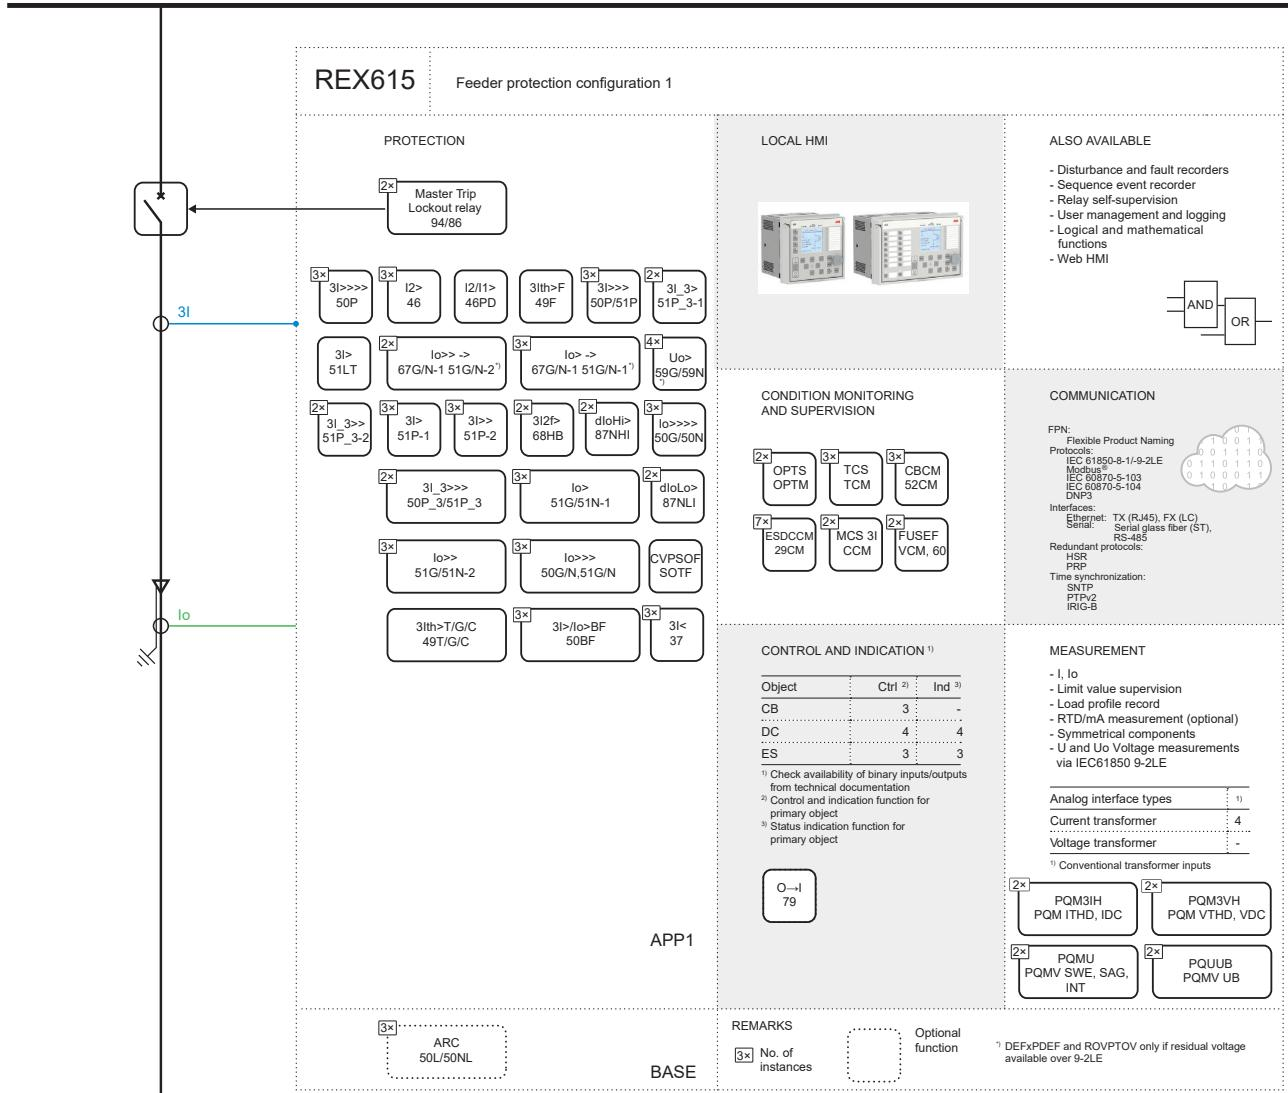
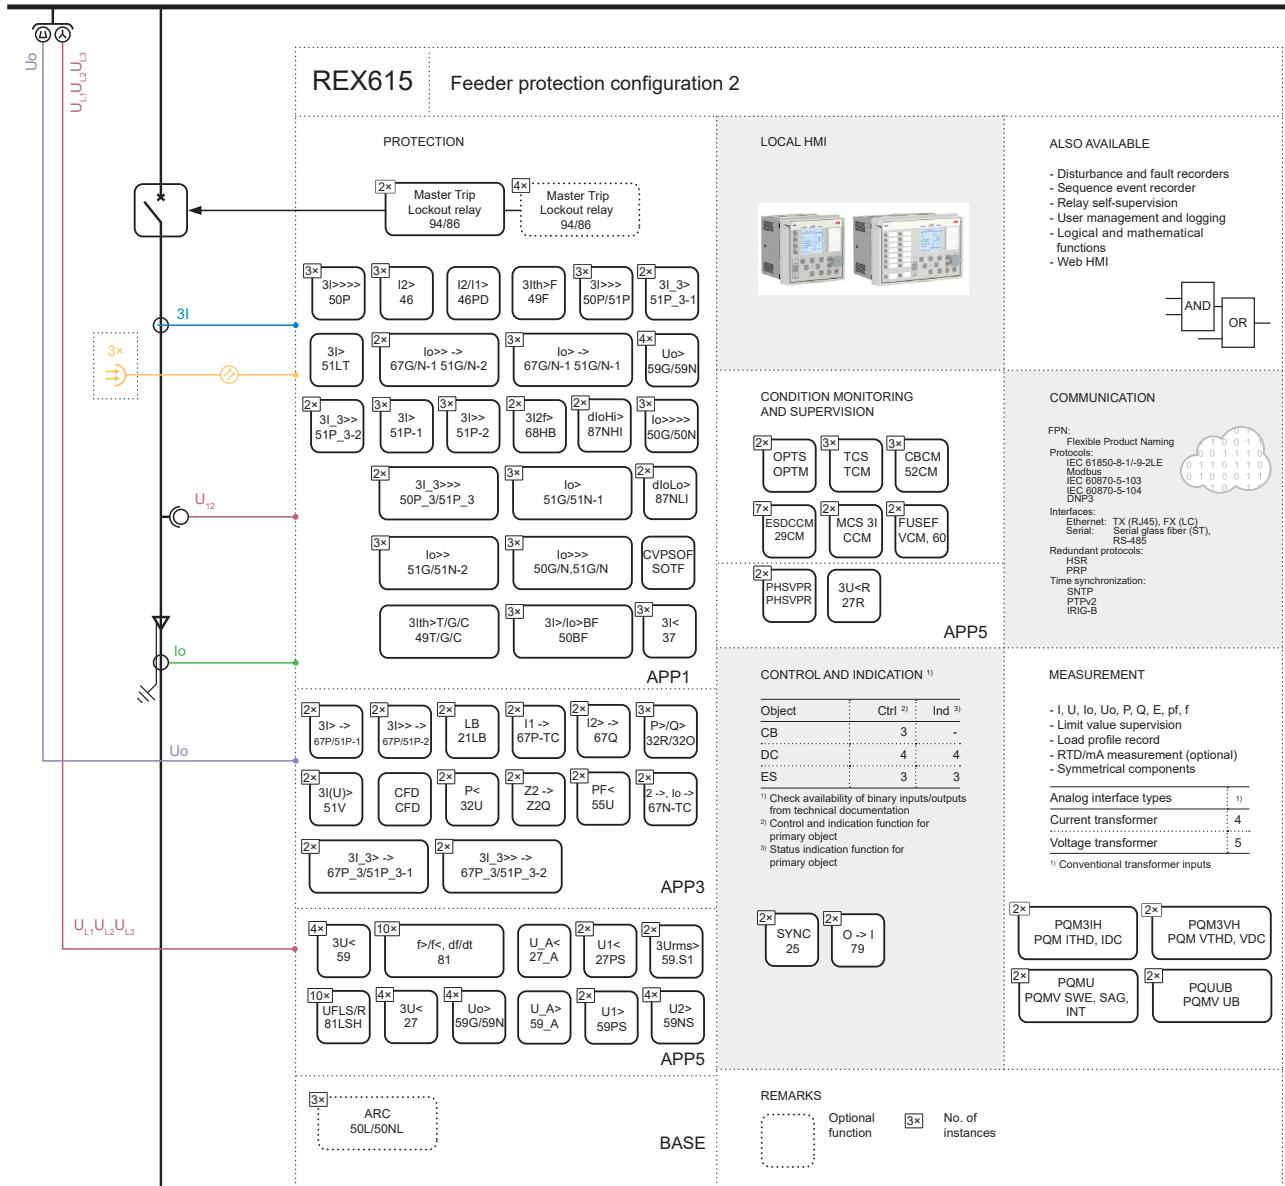

Figure 6: Feeder protection configuration 1
Figure 7: Feeder protection configuration 2
*Figure 6* and *Figure 7* present REX615 in a feeder application. The base functionality is enhanced with application packages providing basic current protection (APP1), feeder protection extension (APP3) and voltage protection (APP5). To provide additional protection against